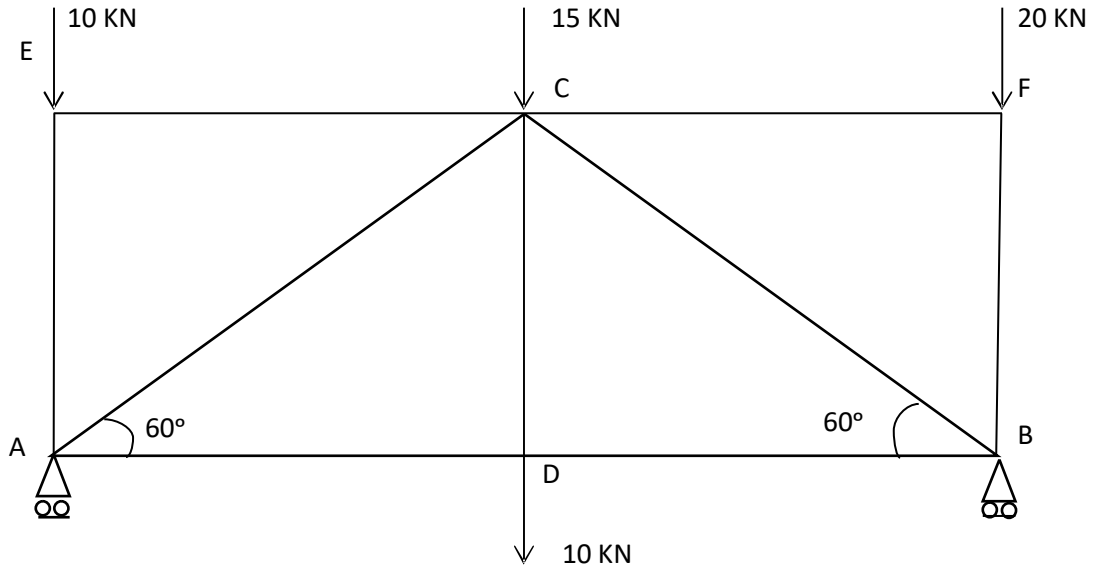

Fig.5
- b. A truss of span $AB = 6$ m and loaded as shown in fig.5. Find reactions and forces in the members of the truss